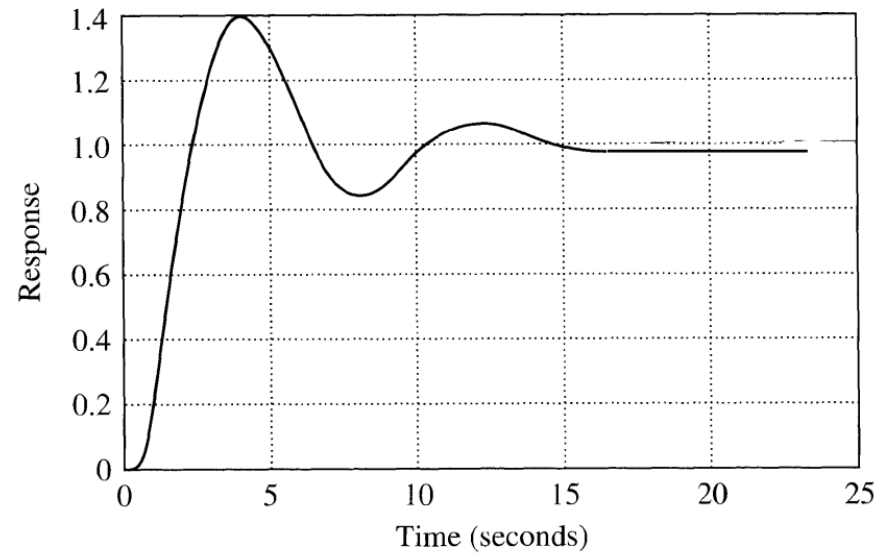

Figure 2: Step response of a PID based control system.
- (b) Proportional (P) plus Integral (I) plus Derivative (D) controller (PID) is a form of linear controller. Figure 2 shows a step response of a system.